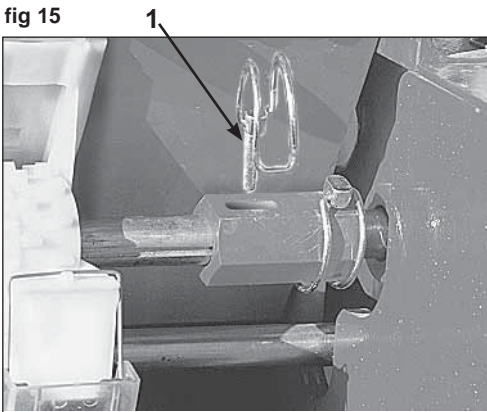

fig 16
- 4 Agitator Shaft - Check the seed chart for hints on whether to connect or disconnect this shaft during seeding. Refer P16, Fig 9, 10 & Fig 16/1.